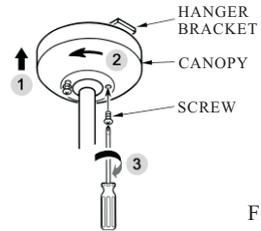

FIG. 10
4. Mount the canopy on the hanger bracket and tighten the screws to hold the canopy in place. (see Fig.10)